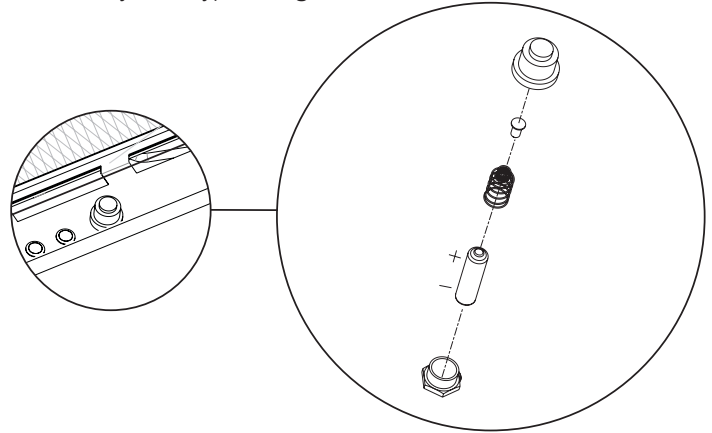

Figure 28
5. Unscrew the ignitor button and install the AA battery provided in the instruction envelope prior to closing the control door. (Note Battery Polarity) **See Figure 28.**